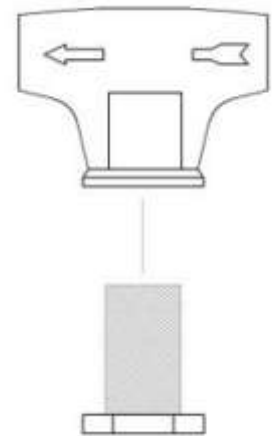

Figure 8-1
- Clean the water line strainer at least once a year. See Figure 8-1.